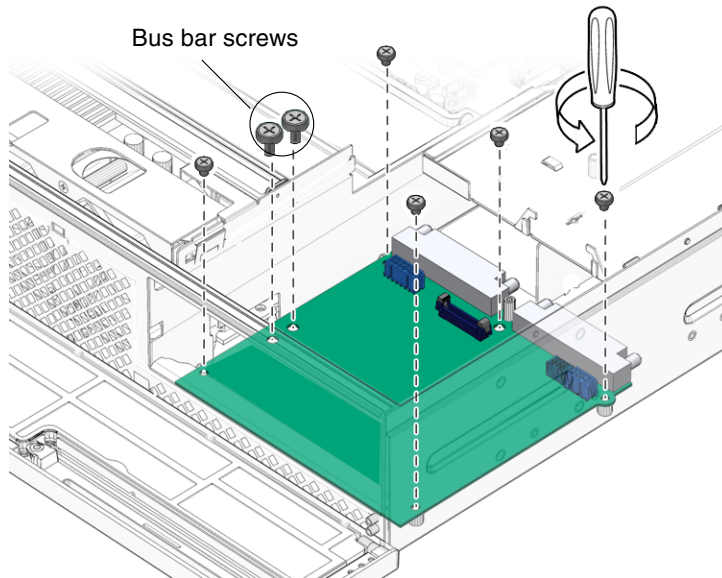

FIGURE 3-73 Removing the Power Board Screws
3. Remove the five screws and two bus bar screws that secure the power board to the chassis (FIGURE 3-73).